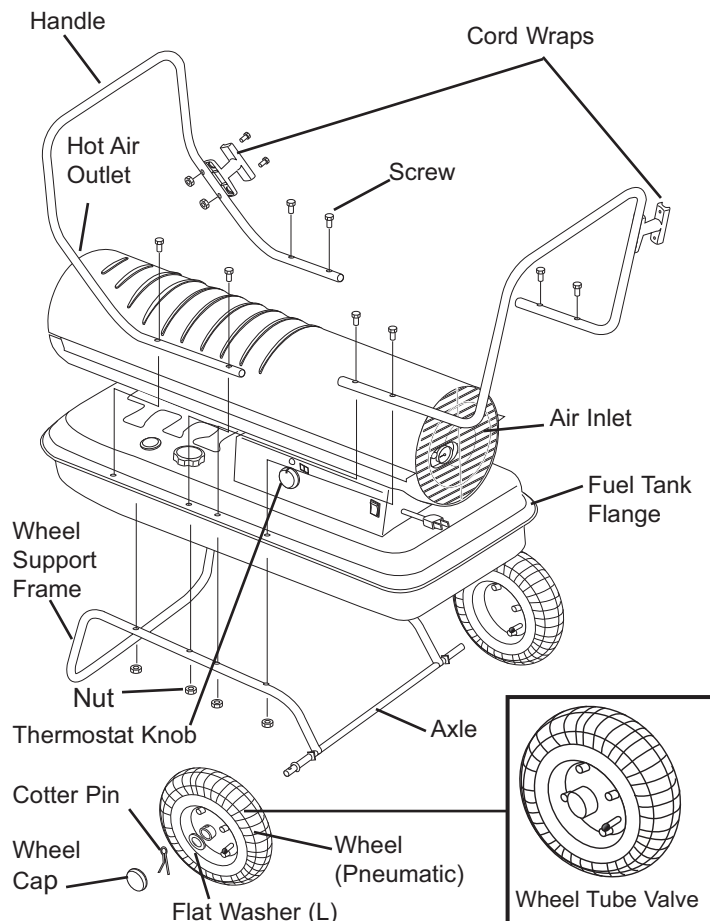

Figure 7. Assembly of Models MH-125T/175T/215T-KFA
1. Slide axle through holes in wheel support frame. Slide wheel bushings and flat washer (A) on to each end of axle.
2. Slide wheels on to each axle, being sure that the valve stem (if pneumatic) is to the outside (**see Figure 7.**).
3. Slide flat washers (B) onto axle past the small hole. Insert cotter pin in axle hole and bent legs of pin with needle nose pliers to secure.
4. Snap the wheel caps onto the large washers (B).
6. Take the front handle and align the mounting holes with the corresponding holes in the tank flange/wheel frame. Slide a screw (A) through the holes and loosely attach a nut. Repeat for the other 3 holes, then fully tighten all 4 screws and nuts.
1. Align holes in cordwrap with corresponding holes in front handle. Insert screws (B) through holes, attach nuts and tighten (see **Figure 7.**).